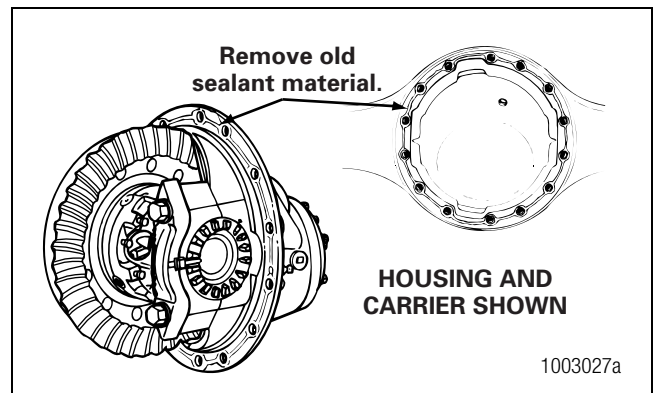

Figure 4.13
1. Use a tool with a flat blade, if required, to remove all old gasket material from surfaces. Figure 4.13.
2. Use a cleaning solvent to clean the surfaces where you will apply silicone gasket material. Remove all oil, grease, dirt and moisture without damaging the mating surfaces. Figure 4.13.